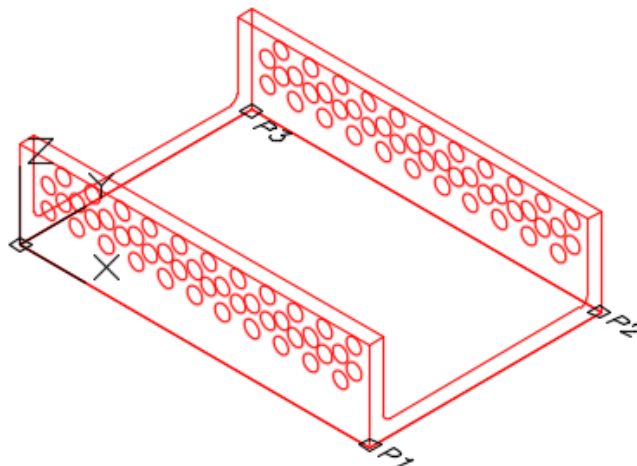

Figure Step 3
Step 3 Enter the MIRROR3D command, as shown below, to mirror the model. (Figure Step 3)